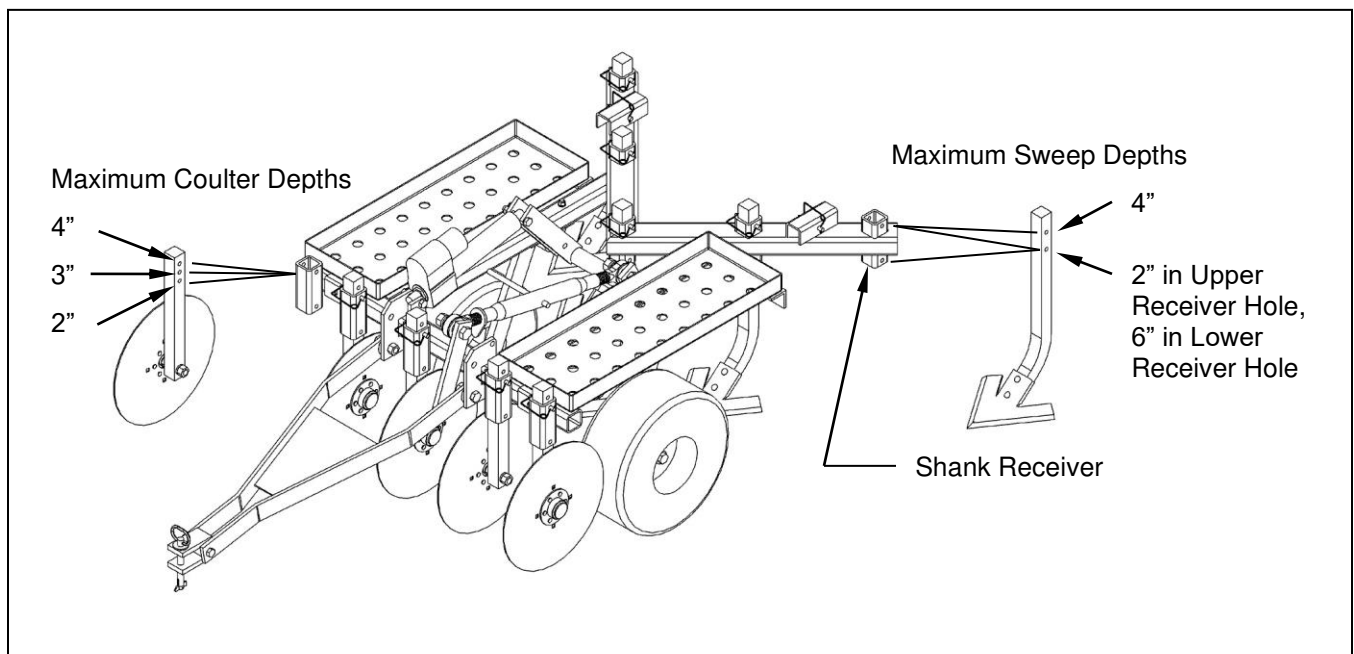

Figure 4. – Shank Adjustment
E. ADJUSTING THE SHANKS AND COULTER SHANKS – Refer to Figure 4.